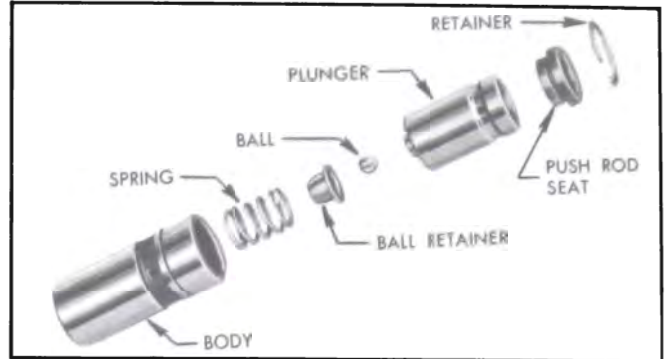

Figure 2-42—Hydraulic Valve Lifter Parts
2. Hold plunger in vertical position with feed hole up, then rinse and install the check ball, ball retainer, spring, and body over the plunger. See parts in Figure 2-42.